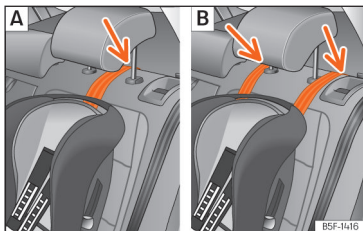

Fig. 40 Rear seats: adjustment and assembly according to the Top Tether belt.
- Position the belt under the headrest (according to the instructions of the seat itself, lift or remove the headrest if necessary) >>> Fig. 40.